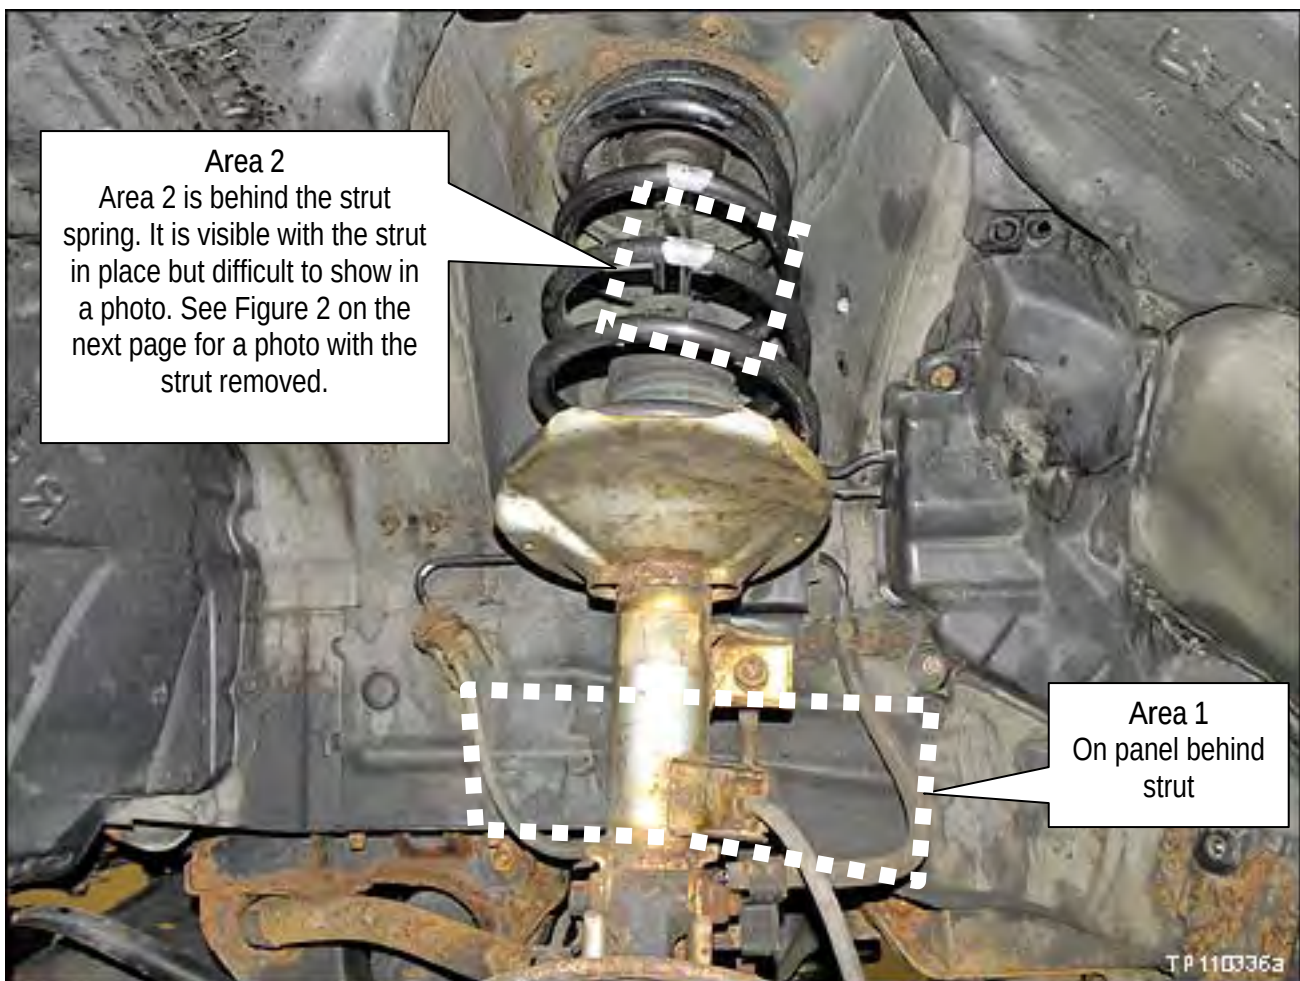

Figure 1
3. Inspect for corrosion on the driver side in the strut housing Area 1 and wheel house Area 2 (see Figures 1 through 4).